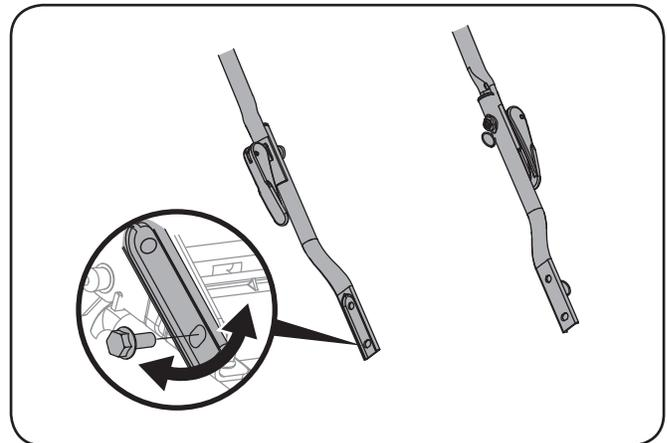

Figure 3-4
1. Loosen the 2 bolts at the base of the lower handle bars on both sides using a 1/2" AF spanner. Move the handle bars to required position and tighten the handle bar bolts. See Figure 3-4.